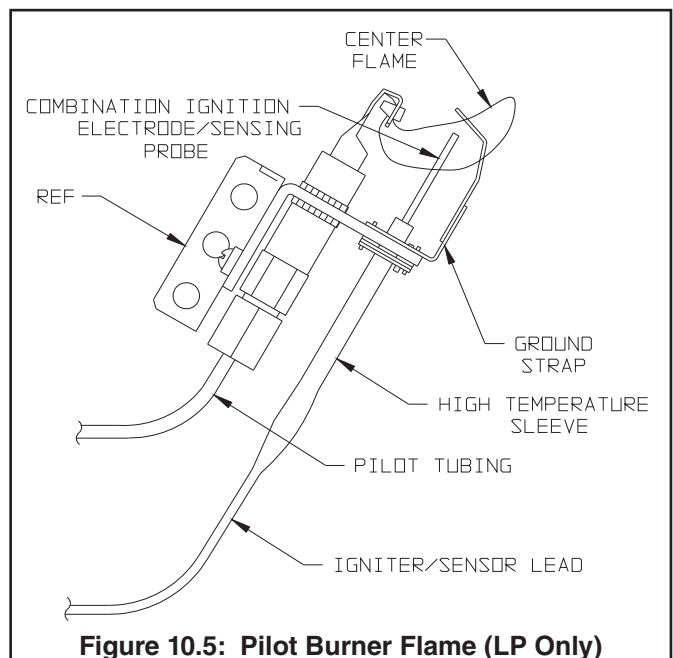

Figure 10.5: Pilot Burner Flame (LP Only)
**LP Gas Only.** The pilot burner produces three (3) flames. The center flame should be steady, medium hard blue enveloping 3/8 to 1/2 inch of sensing probe. See Figure 10.5